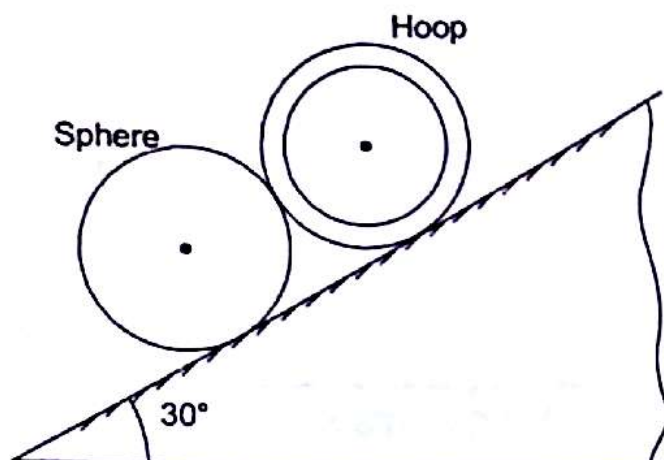

Fig. 17.11
- 17.2 A solid homogeneous sphere and a hoop are in contact when they are released from the state of rest. Mass and radius of both are the same, as shown in Fig. 17.11. If they roll without slipping, what are their velocities after 3 seconds from start.